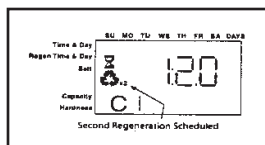

Figure 11
- The display will show a x2 icon indication that a second manual regeneration will occur after the current regeneration is completed (Figure 11).